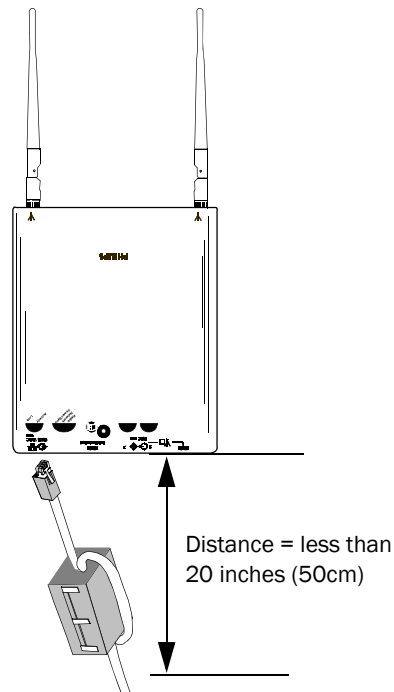

Figure 3-2: Installing a Ferrite Block on the UTP Cable to the IntelliVue Smart-hopping Infrastructure
6. Install a ferrite block on the RJ-45 cable within 20 inches (50 cm) of the RJ-45 connector that connects to the Core Access Point as shown in Figure 3-2.